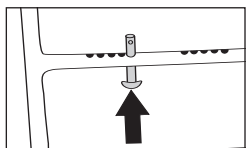

Figure 2F
- III. Insert clevis pin into desired hole (Figure 2F) and replace split ring.